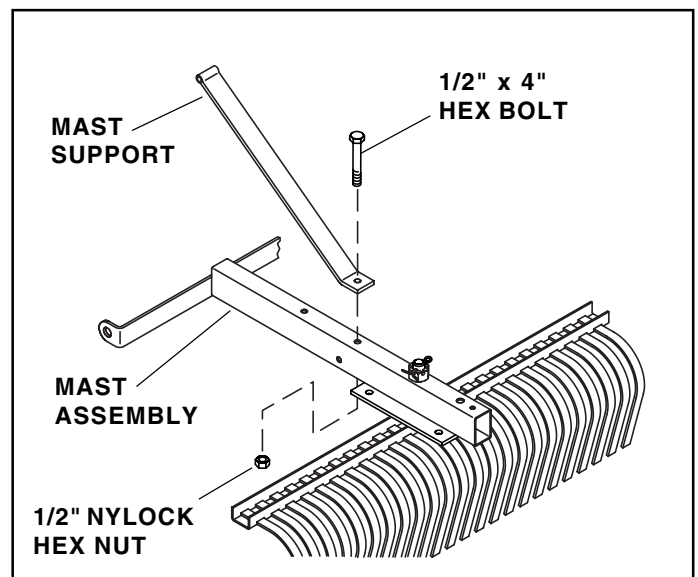

FIGURE 3
3. Attach the mast support to the mast assembly using a 1/2" x 4" hex bolt and 1/2" Nylock hex nut. Use the hole located just in front of the threaded stud. Install the bolt so the nut is on the bottom side of the mast assembly. See figure 3.